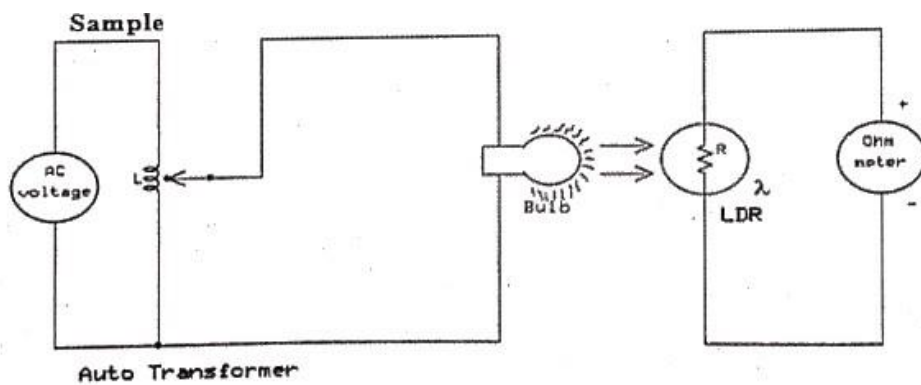

Figure 2 :- To measure the Resistance variation with light
1. Connect the circuit as shown in figure2
2. Connect the ohm-meter section of DMM to LDR as shown in figure2.